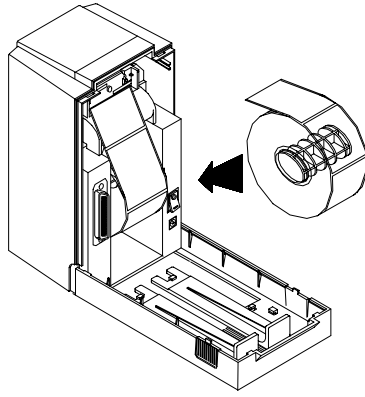

Fig. 2.3.2
3. Insert a small-size label roll onto the core shaft (see figure 2.3.2).